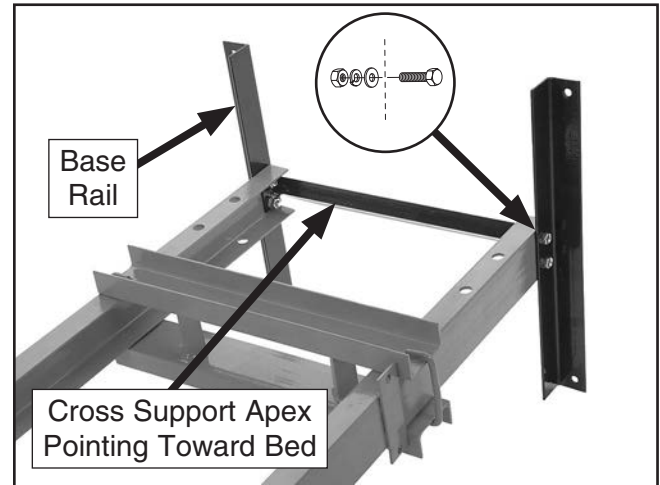

Figure 6. Base cross support installed.
4. Using a 19mm wrench, attach the base rails and cross support to the U-beams with four M12-1.75 x 30 hex bolts and four 12mm flat washers, lock washers, and hex nuts, as shown in **Figure 6**.
Note: Make sure to position the apex of the base cross support towards the bed as shown in **Figure 6**.